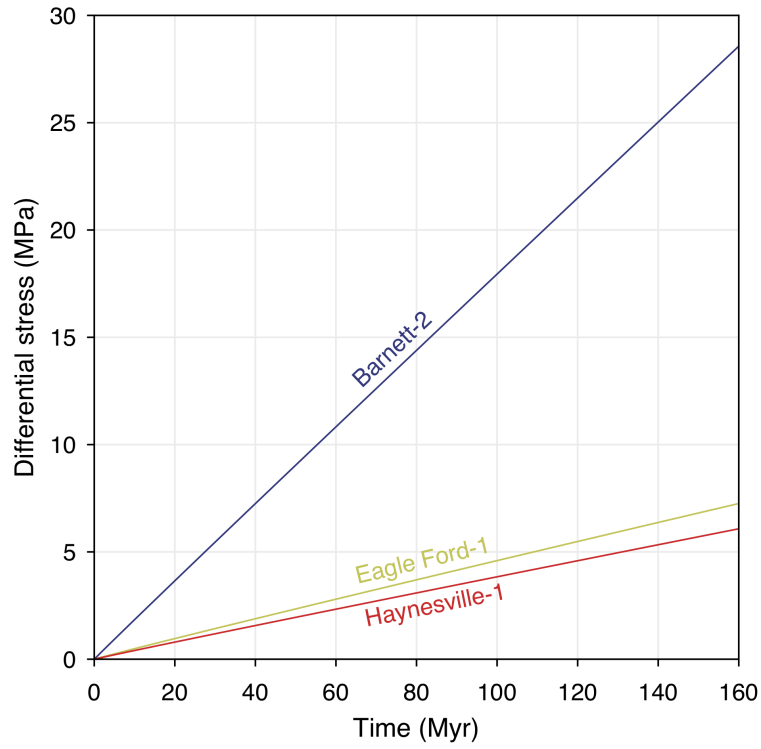

Figure 3: Accumulated differential stress as a function of time.
- a) Figure 3 shows S_{hmin} magnitudes as a function of depth for a layered sequence. Based on this stress profile, which formation is the least ductile (most brittle)?